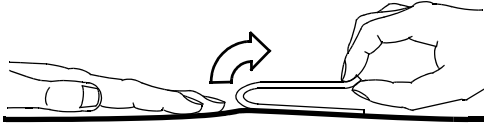

Figure 5-4 Removing Therapy Electrodes from Skin
- 1 Slowly peel back the electrode from the edge, supporting the skin as shown in Figure 5-4.